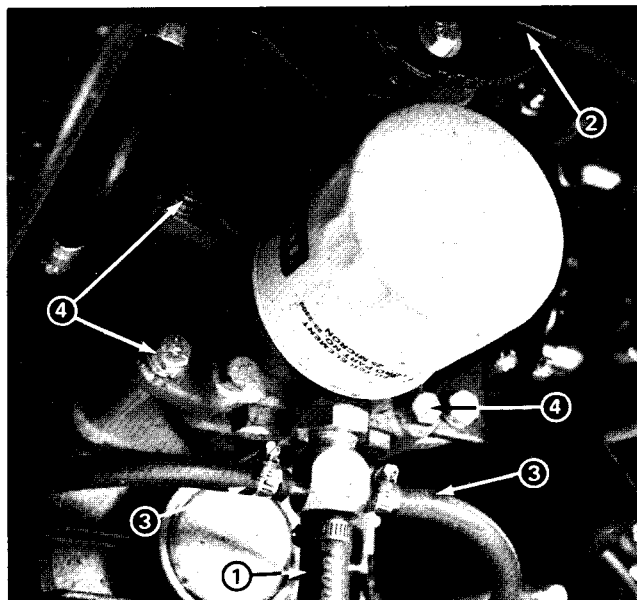
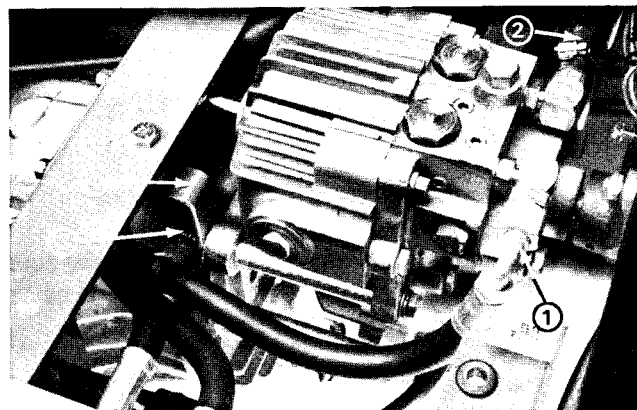

Figure 25
Figure 26
6. Put a drain pan below the differential and transmission. Disconnect the transmission suction hose from the fitting on the bottom of the transmission and allow the hydraulic oil to drain (Fig. 25). Disconnect the lift cylinder return hoses. Disconnect pressure hose and return hose from the transmission (Fig. 26). Put caps or plugs on the fittings, ports and hoses to prevent contamination.
7. Disconnect the engine to transmission coupler from the transmission (Fig. 25). (See Removing Drive Coupling in the Repairs section of Chapter 10 - Engine to Transmission Coupler.)
10. Remove the hex nut that secures the transmission anchor on the front of the differential mounting flange (Fig. 26). This nut is threaded onto the upper left transmission mounting cap screw.
11. Support the transmission to prevent it from falling while carefully removing the four cap screws that secure the transmission to the differential (Fig. 25). Carefully pull the transmission out of the differential and lower it out of the frame.